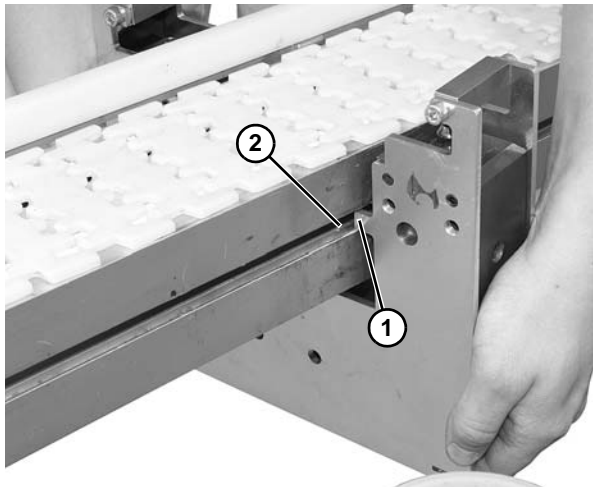

**Figure 64**
6. Remove two socket head screws (**Figure 64, item 1**) securing the angle bracket (**Figure 64, item 2**) to the lift and locate station.
7. Loosen hex nut (**Figure 64, item 3**) securing angle bracket to conveyor and slide out of the way.